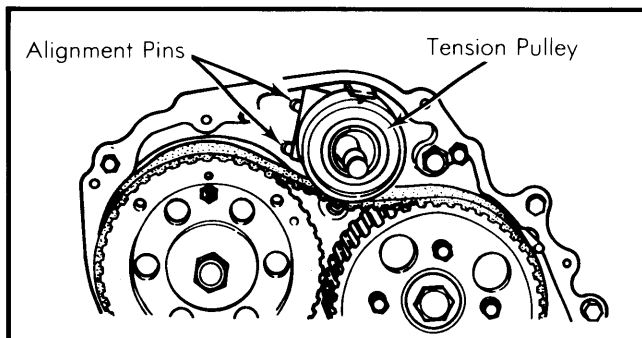

Fig. 5 Tension Pulley Installation
2) Install tension pulley center and tension pulley. The end of the tension center must be in contact with 2 pins on the timing pulley housing. See Fig. 5. Hand tighten nut, install tension spring and tighten nut to 22-36 ft. lbs. (30-50 N•m).